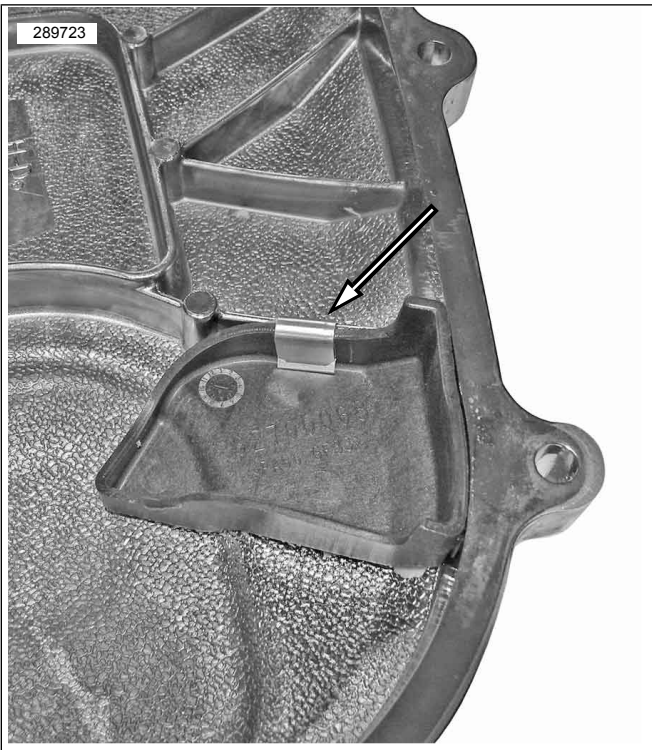

Figure 4. Install Deflector and Retaining Clip
5. See Figure 4. Carefully position deflector in primary cover and press firmly into place. Slide deflector into position. **DO NOT LIFT.**